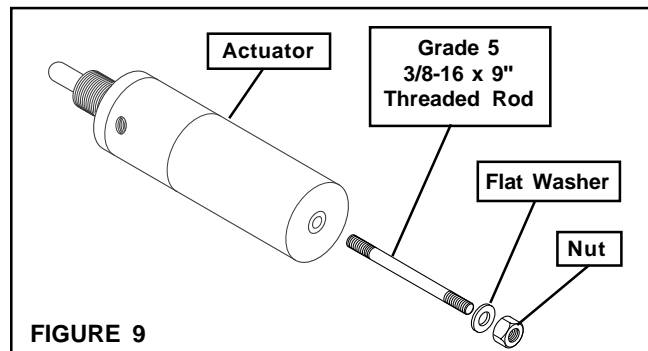

FIGURE 9
2. Using the Nexen Manual Release Kit (Product No. 933596) manually release the brake by inserting the Grade 5, 3/8-16 x 9" Threaded Rod into the back of the Actuator; then, using a Flat Washer and Nut, tighten the Nut to release the brake (See Figure 9).